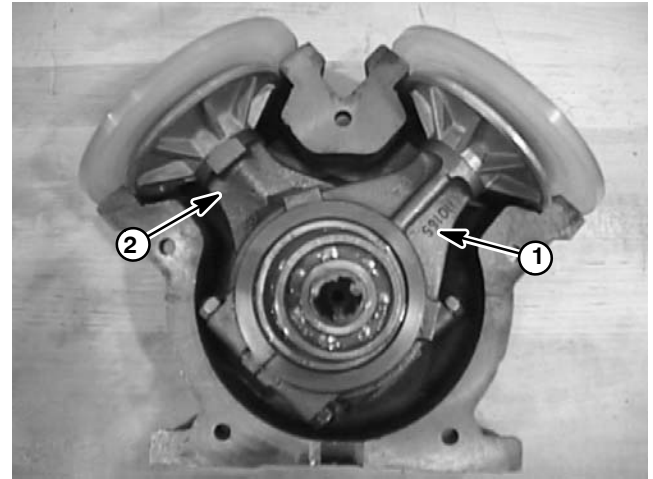

Figure 10
E. Slide crankshaft assembly into pump casing. The rear connecting rod should be positioned to the left side and the connecting rod closest to you to the right side (Fig. 10).